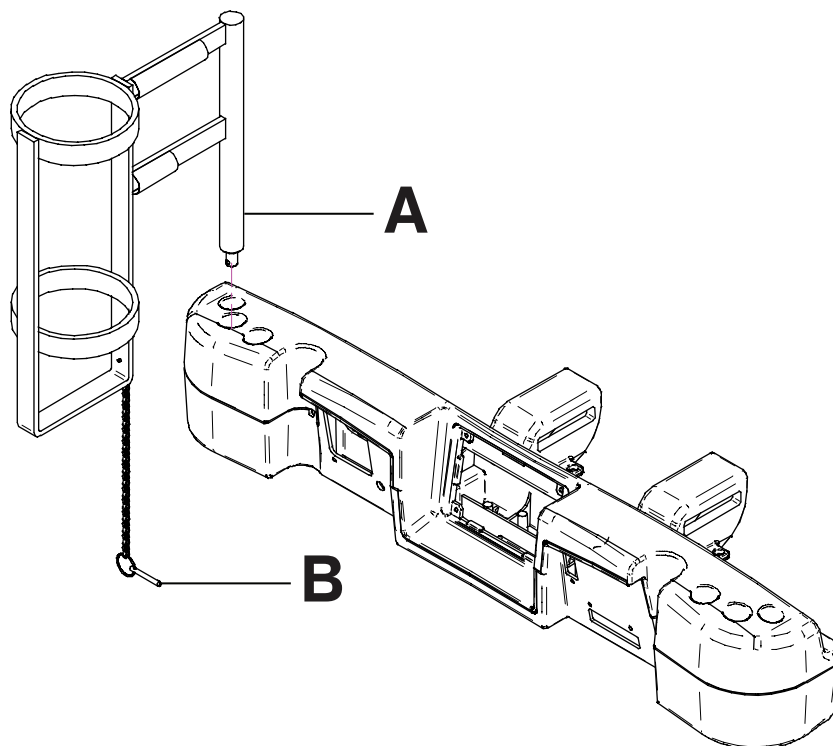

Figure 100: Upright oxygen bottle holder
1. Insert the support bar into the socket at the head end or foot end of the product on either side (A) (Figure 100 on page 103).
2. Insert the security chain pin (B) through the support bar hole (Figure 100 on page 103) to secure the bottle holder to the product.